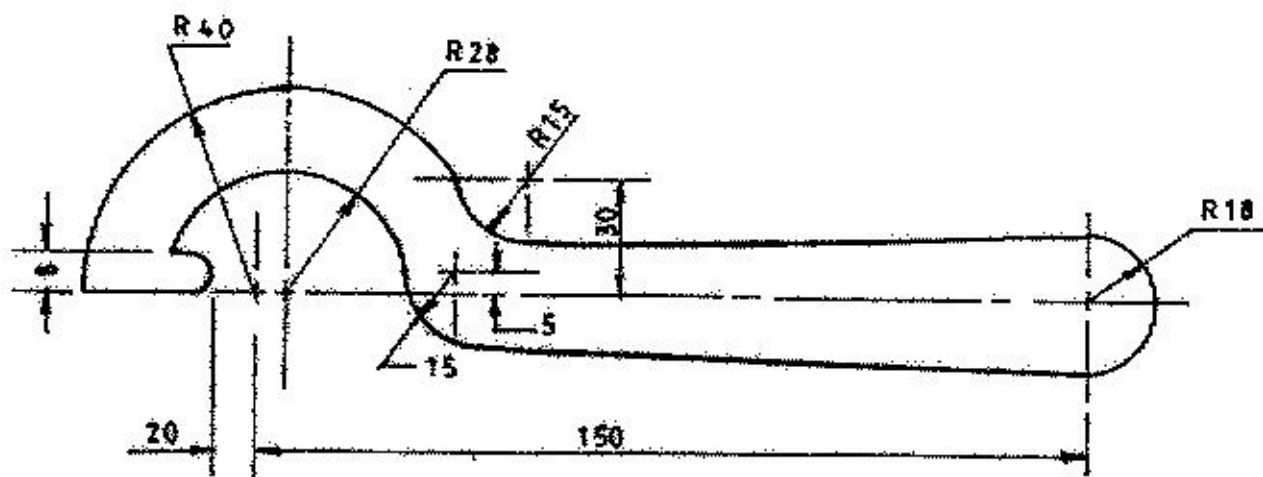

Fig. 4
4. (a) Figure 4, shows a C-wrench. Using correct geometrical constructions, draw the given view to scale. (10 marks)